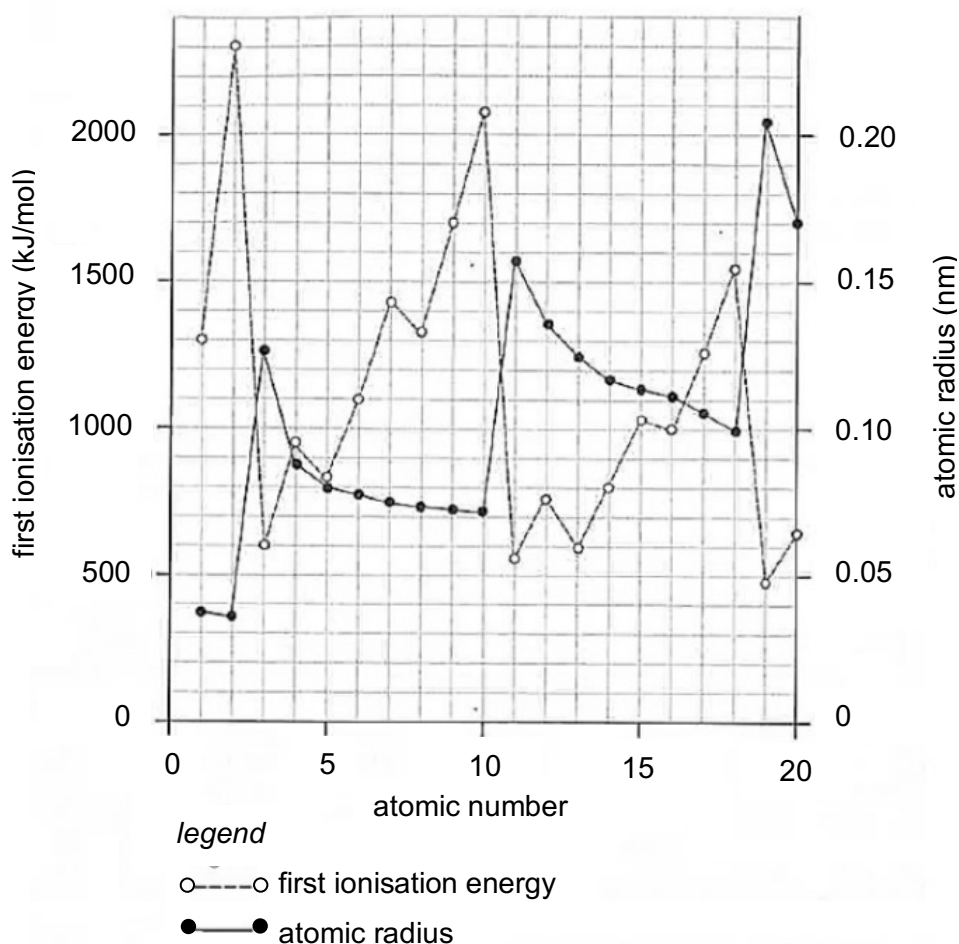

Fig. 10.2
- (b) The graph in Fig.10.2 below show the first ionisation energy and atomic radius for the first 20 elements in the Periodic Table.
- (i) Describe the trend in terms of atomic radius for Group II elements shown in Fig. 10.2.
- (ii) Based on Fig.10.2 and its electronic structure, explain why helium is the least reactive element.